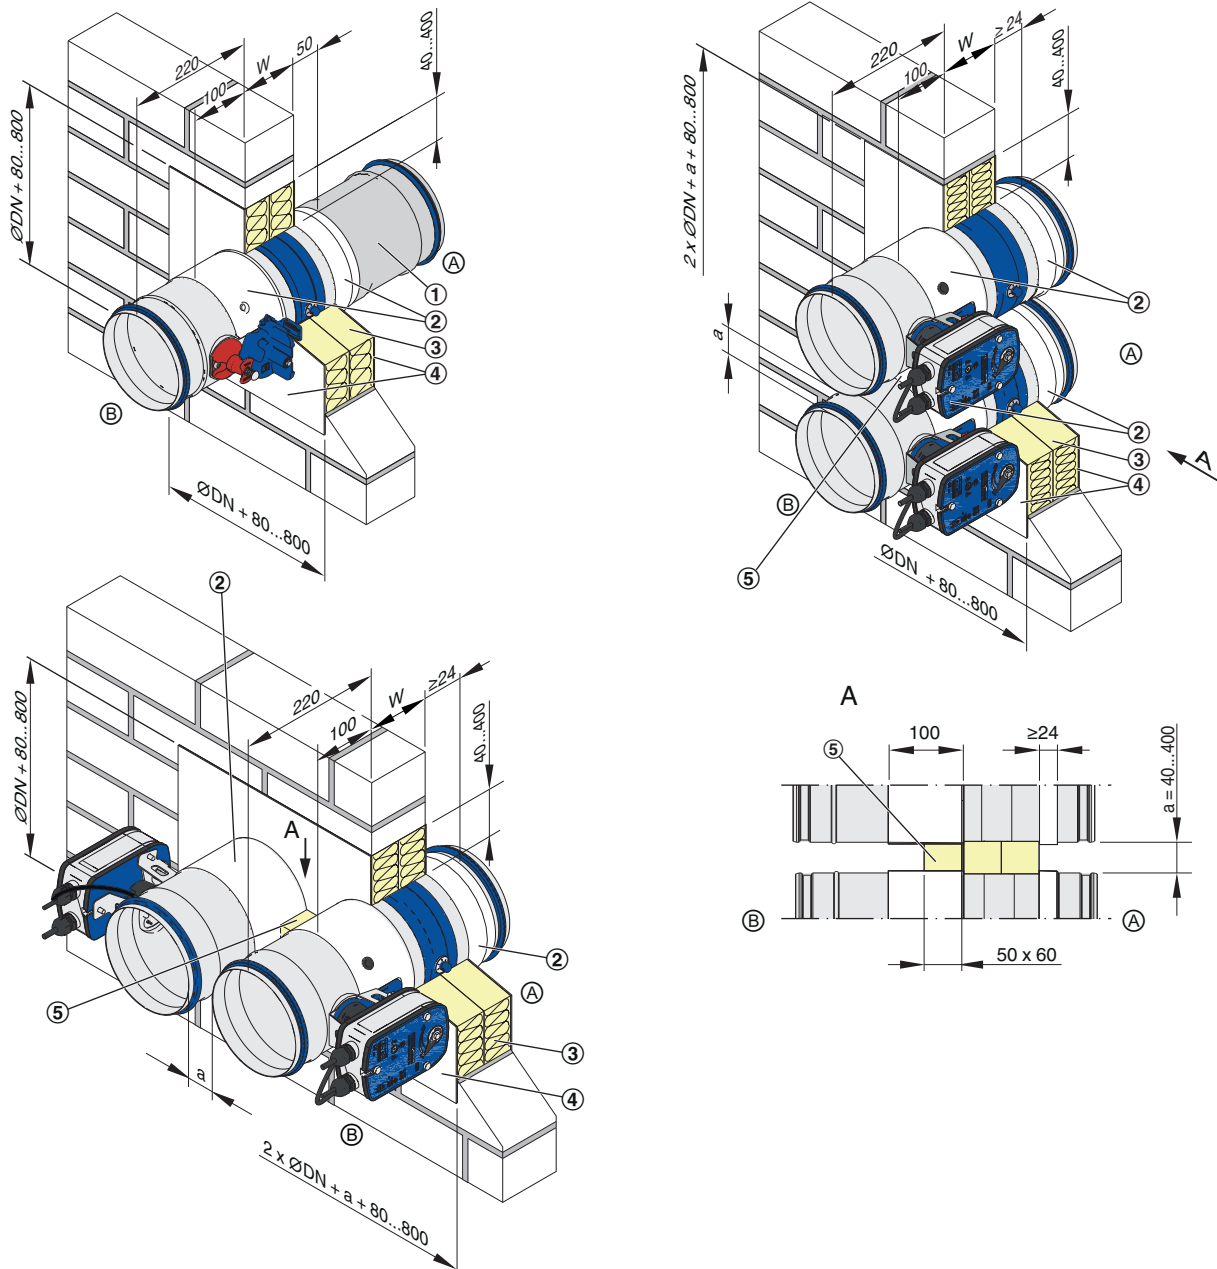

Fig. 9: Installation with fire batt
- ▶ An opening is required, see Fig. 9. 400 mm maximum distance between fire damper and wall opening